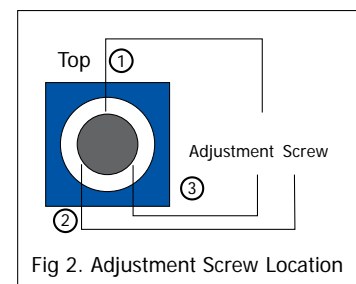

Fig 2. Adjustment Screw Location
STEP 4 Un-tighten all 3 adjustment screws as of Fig 2 Adjustment screw location. (1.5mm hexagonal wrench is required for this job.)